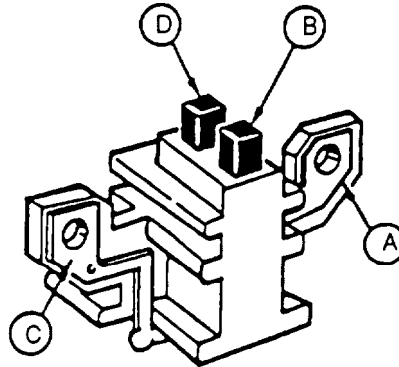

Figure 4-2. Brush Test
- a. Set multimeter for ohms and check brush assembly (Figure 4-2) for continuity between mount A and brush B, and mount C and brush D. Check for open circuits between mount A and mount C, mount A and brush D, mount C and brush B, and brush B and brush D. Replace brush assembly if indications are other than stated.